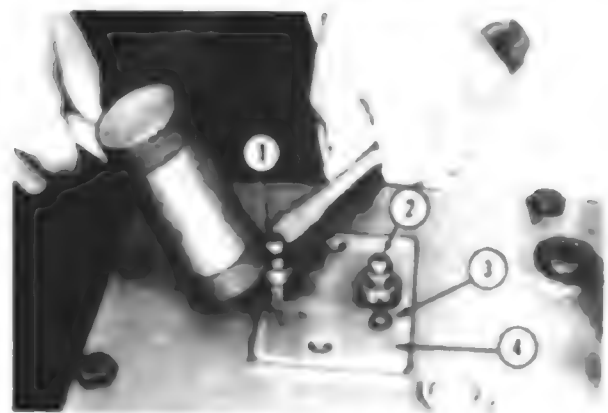
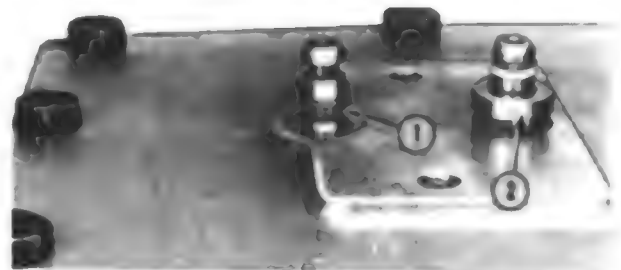

Fig. 108 - When retainers (2) are tapped downward as shown in Fig. 107, tube locks (1) are exposed for removal.
Fig. 109 - With the servo pressure check cover removed, use a tie-rod end tool and unscrew the servo regulator valve assembly.
Attach an engine stand to left side of hydrostatic housing and remove hoist. Unbolt and remove the multi-valve and drive control valve assemblies and lay aside for later disassembly. Refer to Fig. 107 and remove Teflon back-up rings and "O" rings from the high pressure lines. Support high pressure lines with a screwdriver, tap tube lock retainers (2 - Fig. 108) downward and remove tube locks (1) and retainers (2). Unbolt and remove the pump servo access cover. Note location of different length cap screws for aid in reassembly. Remove top cover and control cam assembly. Remove the servo pressure check cover assembly from right side of housing. Using a tie rod end tool, remove the servo regulator valve (Fig. 109). Refer to Fig. 110 and remove pump servo supply tube (4). Disconnect servo supply tube from tee (2), then remove the tube and servo regulator body as an assembly. Unbolt pump servo from swashplate and rear anchor trunnion and lift servo from housing. Unbolt and remove motor servo in the same manner. Remove the servo anchor trunnions, noting the shims under pump servo trunnion. Unbolt and remove covers from left and right sides of housing. Remove the forward and reverse high pressure lines (Fig. 111) and the elbow fittings from the relief valves.